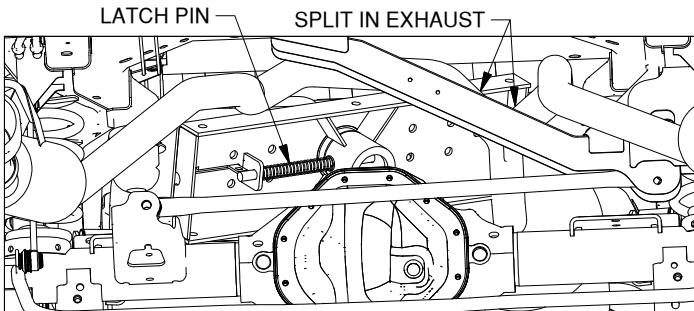
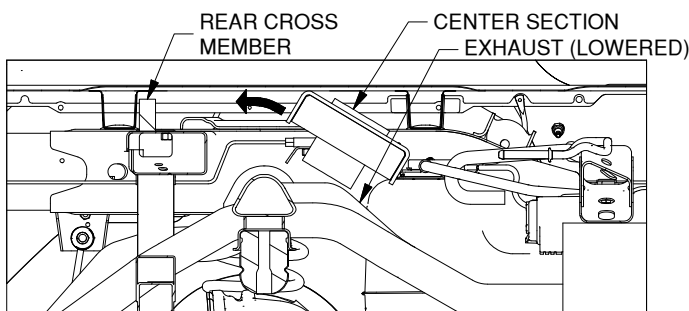

Figure C1: View looking under truck bed toward the cab.
Figure C2: Cut-away view looking towards the inside of the driver side frame.
- 2. Position the center section (dual exhaust).** When maneuvering the center into position, the exhaust will need to have downward force applied to it to open up the space below the bed where the center will install. From behind the axle, move the center section over the driver side of the axle toward the passenger side with the latch pin on the driver side. Lift the center up over the exhaust where it splits, as shown in Figure C1. Lower the driver side exhaust and "roll" the center section over the exhaust, as shown in Figure C2. Do not put the 4" diameter raised area of the center into the 4" hole in the bed at this time. Move the center as far toward the rear of the truck and to the passenger side as possible to make room for the front cross member. Position the center in a secure manner so that it will not fall while completing the installation.